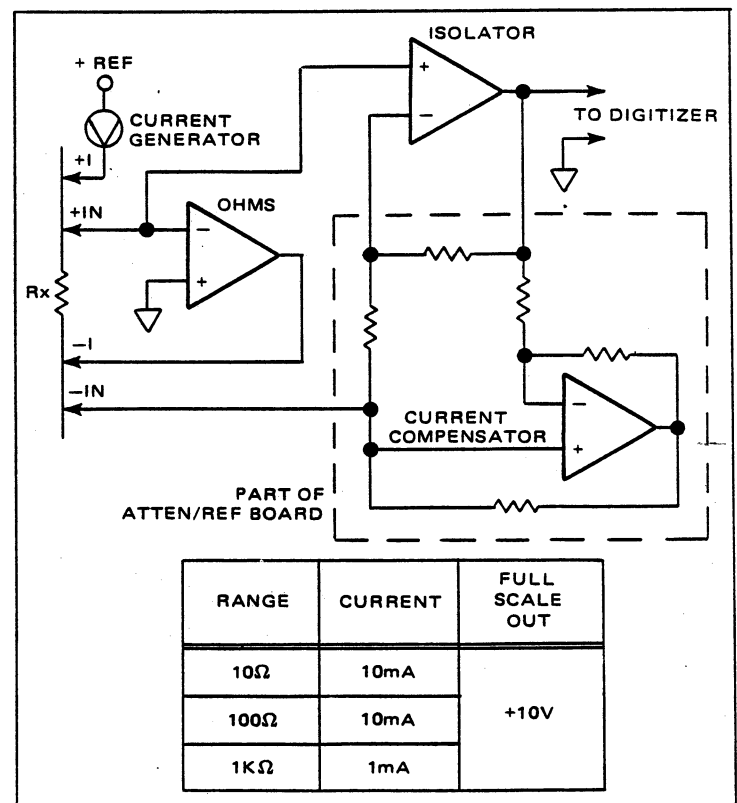

Figure 5.10 - 10 $\Omega$  - 1K $\Omega$  Ranges
5.3.4.5.4 *10 $\Omega$  - 1K $\Omega$  Ranges.* As shown in Figure 5.10, the output of the Ohms amplifier is applied to the positive input of the Current Compensator, and to the negative input of the Isolator (through part of the Gain Resistor string). The output of the Current Generator is applied to the positive input of the Isolator. In this configuration, the output of the Ohms amplifier is inverted and amplified by the Isolator for a full scale output of +10 volts. Isolator gain is 100 in the  $10\Omega$  range and 10 in the  $100\Omega$  and  $1K\Omega$  ranges.